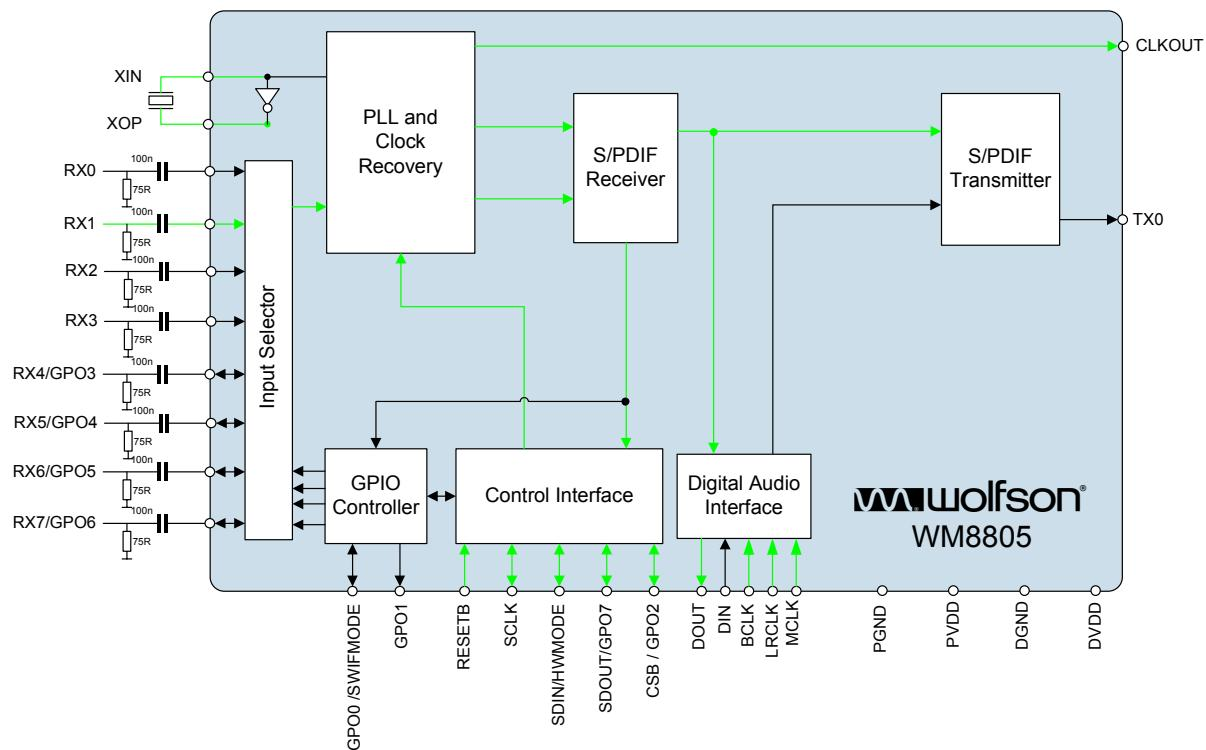

Figure 7 S/PDIF Rx1 to Audio Interface Block Diagram
- Figure 7 illustrates the data path.